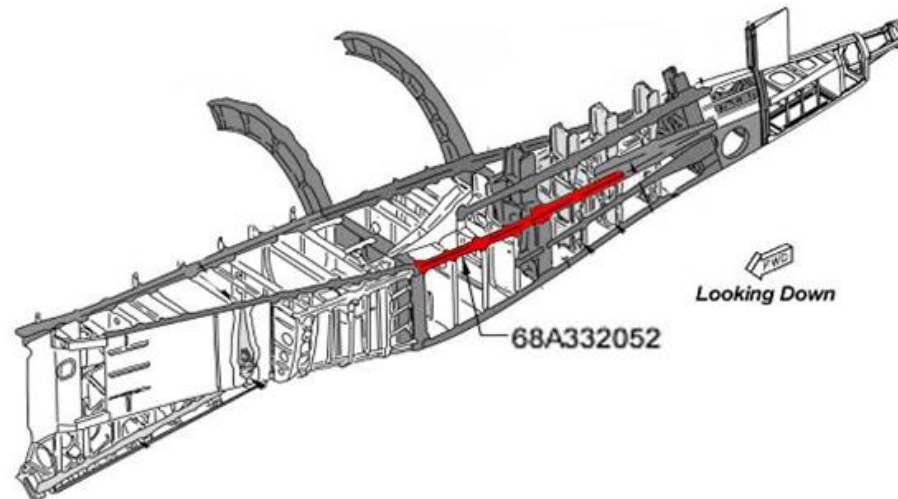

Figure 13: CWP-AF-12
5.13 CWP-AF-12 – Figure 13, Table 13 – Stringer #10 (FS712 to FS785)